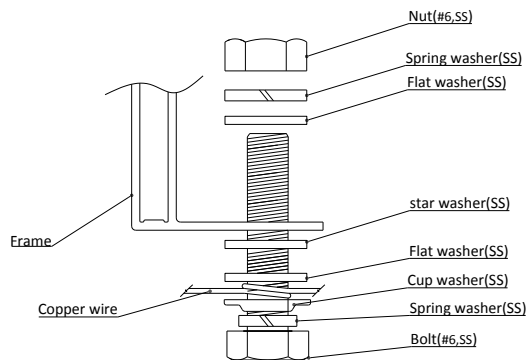

Figure9
- A grounding screw assembly must be attached at a designated grounding holes location using only stainless steel hardware. Insert a #6 stainless steel screw first through spring washer, flat washer, cup washer with a 2.1mm diameter copper wire, star washer, and then through the grounding hole on the frame, flat washer, spring washer, at last tighten them with the #6 nut, Please pay attention: the temperature limit of conductor is 85°C, show in figure9.